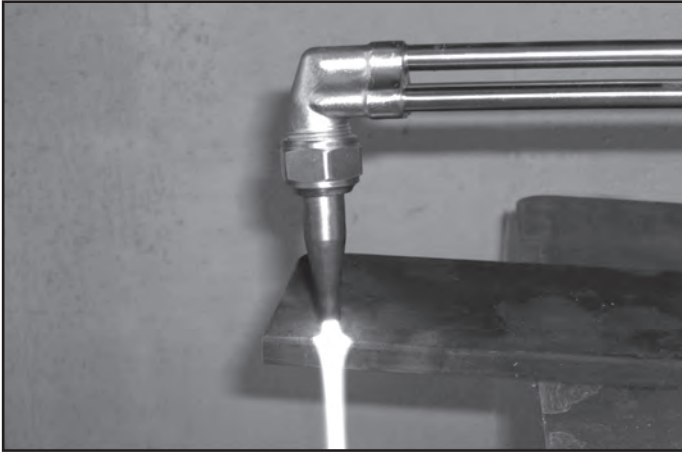

Figure 18: Starting the Cut
19. Direct the preheat flame to the spot where the cut is to begin (see Figure 18). Before the cutting action can start, preheat the starting point of the metal to a bright cherry red kindling temperature. When the red spot appears, depress the cutting oxygen lever slowly and fully.